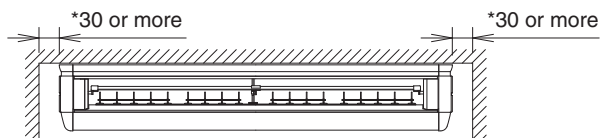
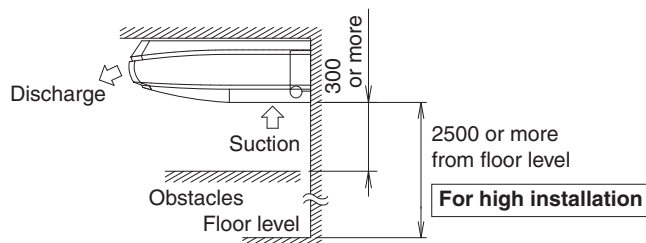

Fig. 1
Fig. 2
**(1) Select the installation location that meets the following conditions and get approval of the customer.**
- Where a space sufficient for installation and service can be ensured. (Refer to Fig. 1 and Fig. 2)